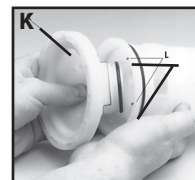

Figure 8
9. When reassembling the pump housing to the pressure cylinder, be sure the square tab on the pump housing (K) is aligned in the notch. See arrows (L) on the pressure cylinder in Figure 8. Be careful not to pinch or nick the O-ring.